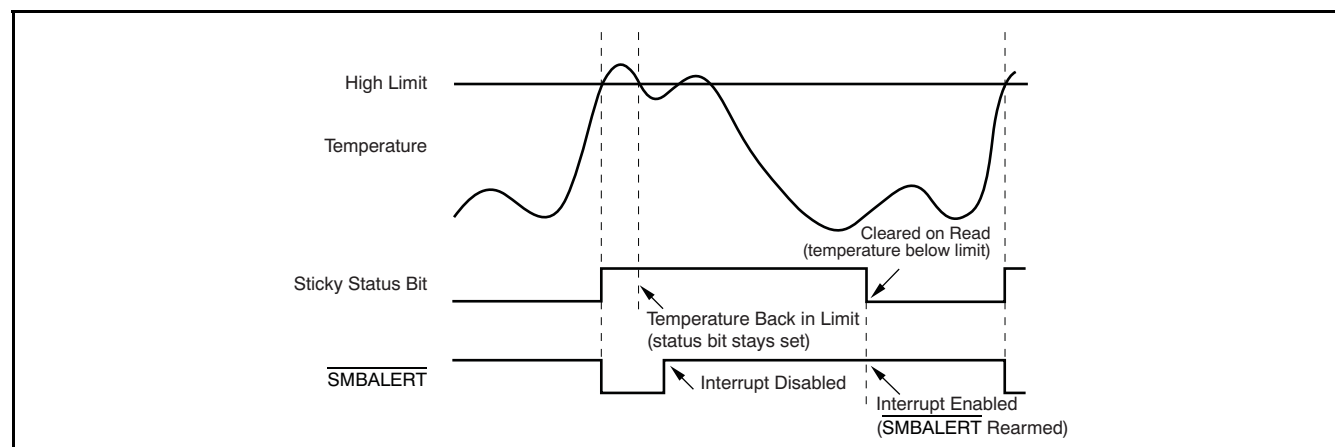

Figure 23. How Masking the Interrupt Source Affects SMBALERT
The SMBALERT pin is a standard interrupt output defined by SMBus specification revision 2.0. This pin is an open-drain output pin and is shown in Figure 23.
7. Periodically poll the status registers. If the interrupt source bit has cleared, reset the corresponding interrupt enable bit to 1. This makes the SMBALERT output and status bits behave as shown in Figure 23.